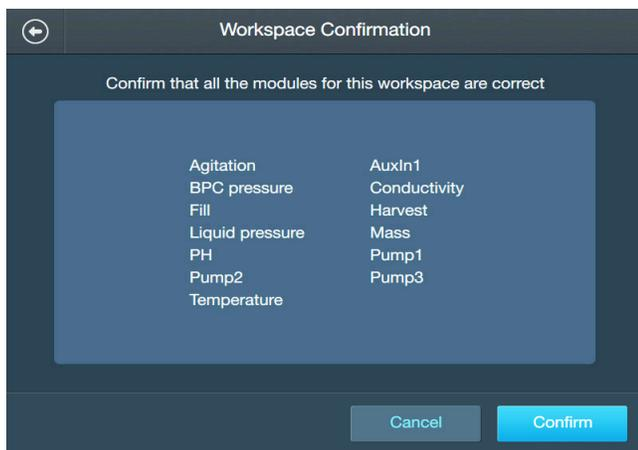

Figure 9. Home Screen Confirmation screen
- The “Home Screen Confirmation” screen that appears (Figure 9) displays the pumps/ auxiliary outputs and other modules you have selected. Click “Confirm” to add them to your home screen. The next screen that appears will look similar, but it will list the modules that have been added to the home screen. Touch “Open Home Screen.”